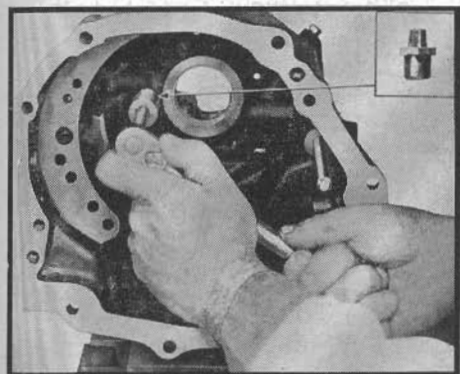

Fig. 15 Removing lubrication pressure relief valve. 1953-59
26. Remove lubrication pressure relief valve, Fig. 15.